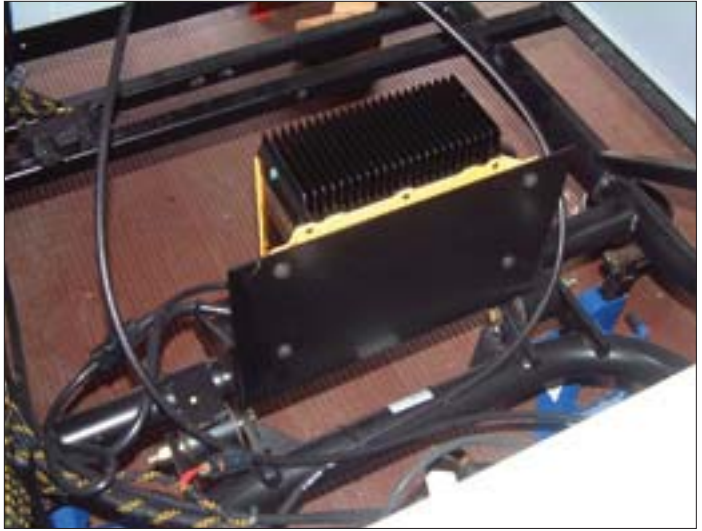

Figure 8-7. Battery Charger Mounting Hardware
4. Remove nuts, washers, bolts and charger. See Figure 8-7.
1. Position new charger to mounting bracket. See Figure 8-7.